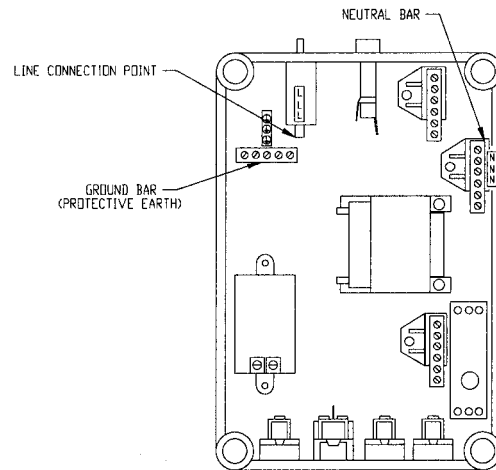

Fig. 10
- c. Connect the line wire to the line distribution bar located in the upper right corner of the tub's electrical box. It will have only black wires connected to it. See figure 10